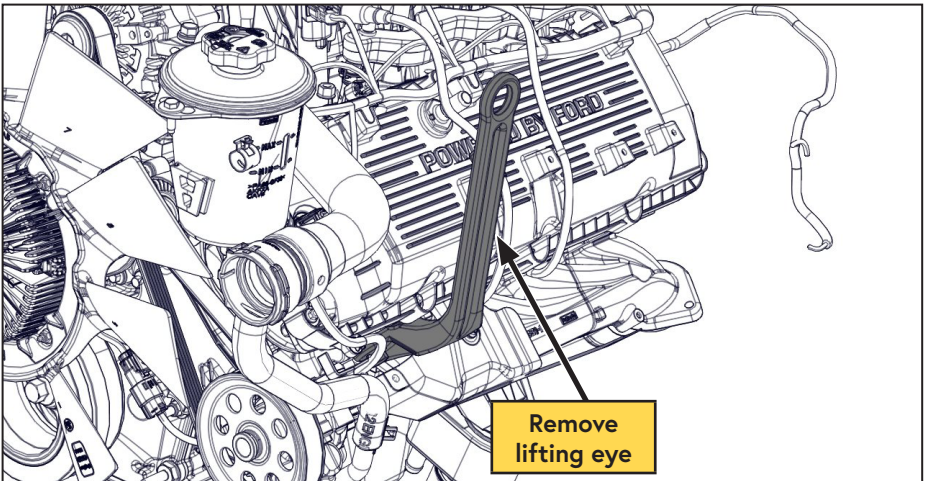

Figure 4 — Remove lifting eye
- Remove the lifting eye (if equipped) (Figure 4).